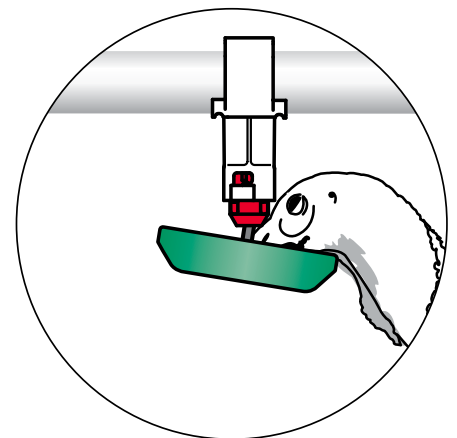

Figure 6.
During the drinking process, it is important that the turkeys push down on the edge of the D-Max drinkers with their necks. Maintain a drinker line height that forces the turkeys to stretch their necks up and over the D-Max drinker edge when drinking. See Figure 6 on the front side.
- Please note that the Drinker Height chart (Figure 1 on the front side) is the MINIMUM drinker height based on bird age. It is highly recommended to adjust drinker line height as high as possible to achieve and maintain Proper Drinker Activation. See Figure 6 on the front side.